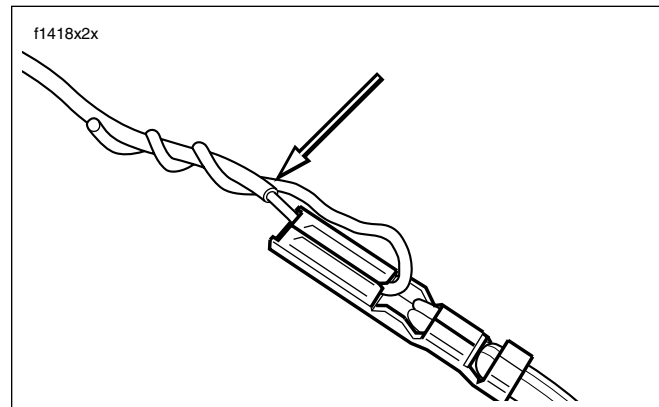

Figure 8-8. Fix Mechanic's Wire to Socket Terminals
1. See Figure 8-8. Attach mechanic's wire to socket terminals and carefully pull ends of mechanic's wire to draw socket terminals back through mounting bracket and conduit.